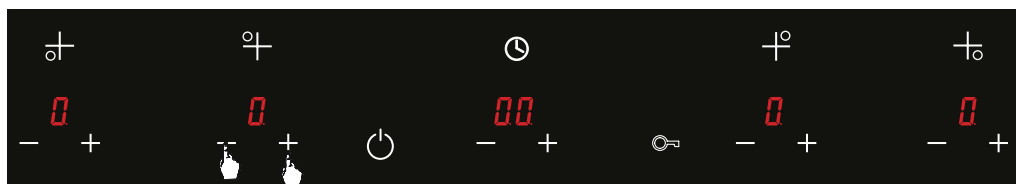
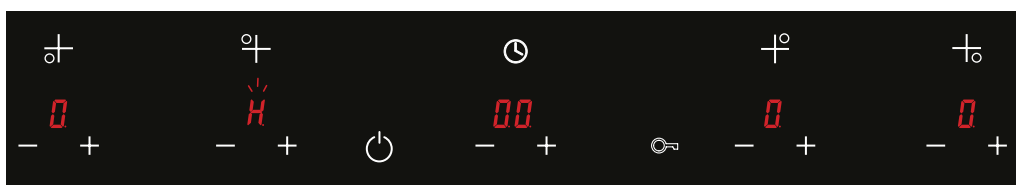

Figure 44
Figure 45
2. Using the  and  keys of the relevant hob, it is brought to the  temperature level. (See Fig. 44) Temperature value flashes for 5 seconds.  symbol flashes if the relevant hob is still hot at the end of this period. (See Fig. 45)